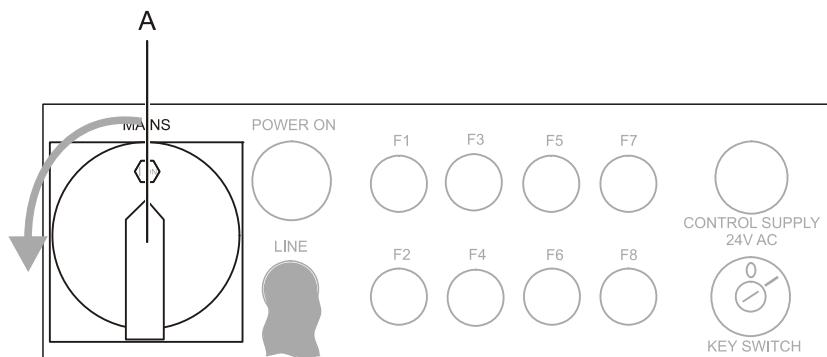

Figure 70: Laser device Emergency Off (EMO) function
1. Turn the main switch (see Figure 70, A) counter-clockwise to the "OFF" setting.